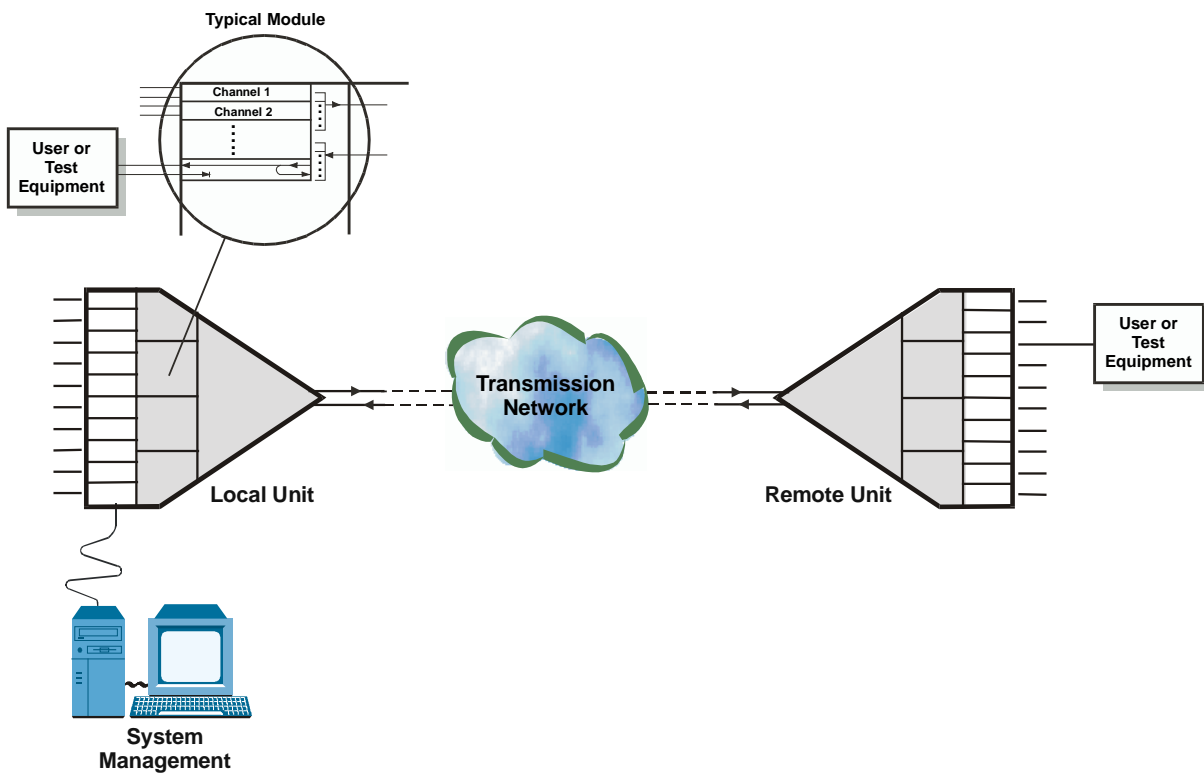

Figure 6-11. I/O Module, Remote Loopback on Individual Channel
- A remote loopback on an individual channel (Figure 6-11) allows the remote side to check the complete transmission path down to the local channel circuits. It is a rapid test when everything seems to be working OK.